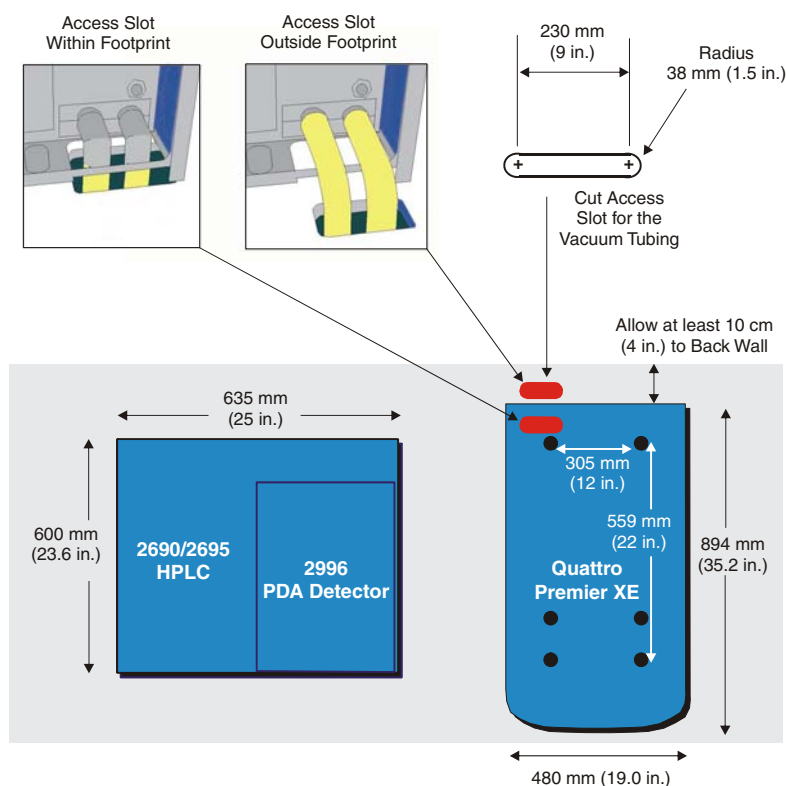
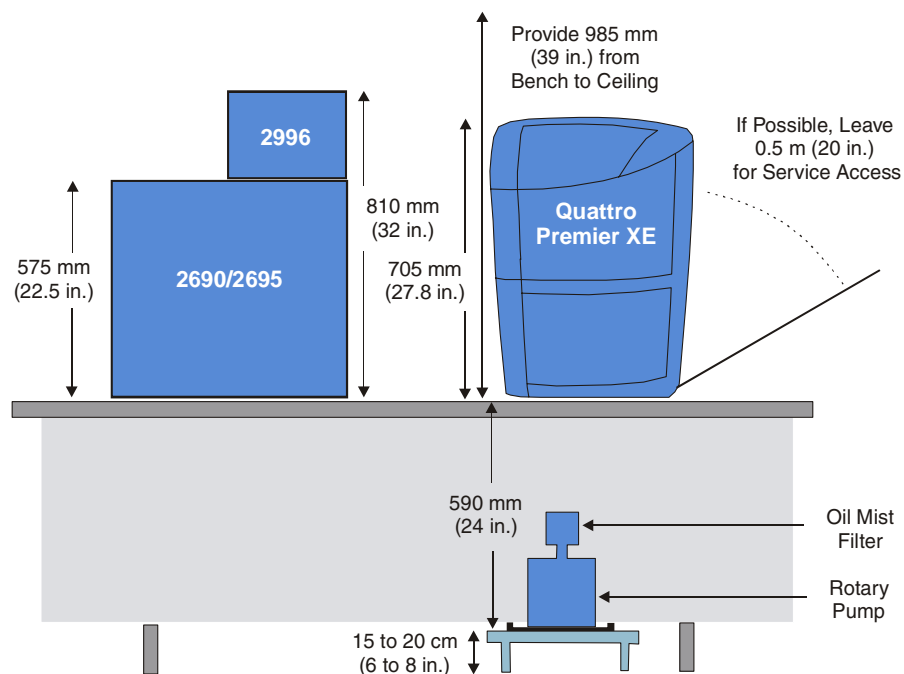

Figure 2 - Quattro Premier XE Space Requirements
Figure 3 - Front View, Showing Space Requirements of a Typical System
Allow the following minimum clearances around the instrument for service access and ventilation (Figure 2 and Figure 3):
- 200 mm (8 in.) on the right hand side. If possible, leave 500 mm (20 in.), to allow the side panel to be lowered easily for servicing (Figure 3).
A possible layout for the Quattro Premier XE, rotary/scroll pumps, data system and ancillary equipment is shown in Figure 2.